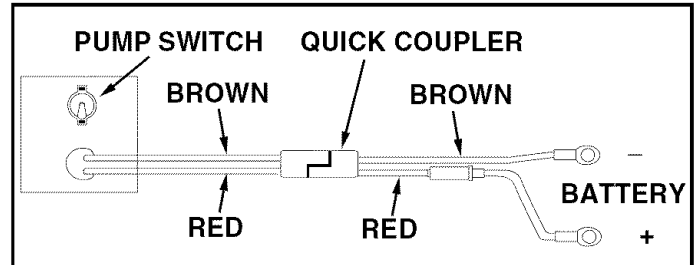

FIGURE 17
31. Hook up the wiring to the vehicle battery. Connect the red wire on the fused wire harness to the positive post on the battery or the "HOT" connection on a vehicle switch or the ammeter. The brown wire may be grounded or connected to the negative battery post. See figures 17 and 18.